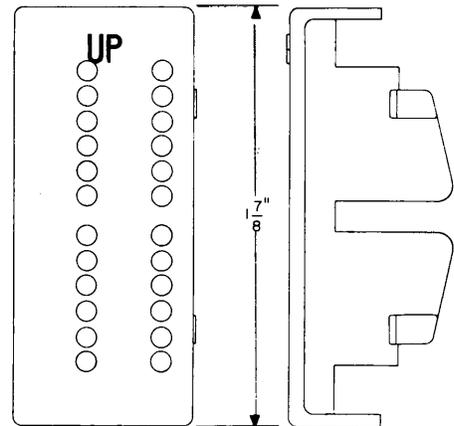

Fig. 1—651B Holder Tool
- (a) **651B:** The 651B holder tool (Fig. 1) is used on 24-position, AJ-type relays.